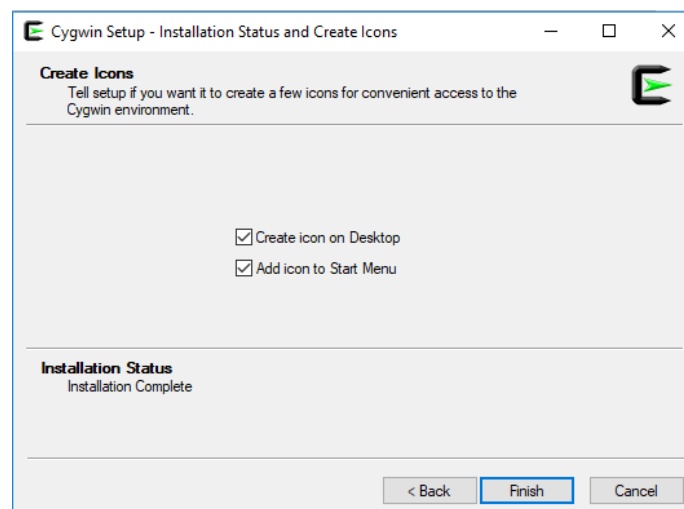

**Figure 107. Select the most up-to-date version and tick the box**
- Select the most up-to-date version in the dropdown menu **and** tick the box (Figure 107).